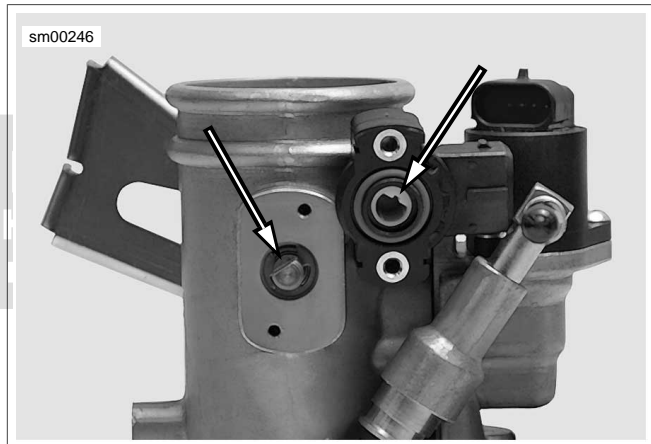

Figure 4-11. Throttle Position Sensor
4. See Figure 4-11. Remove two screws and washers to detach TP sensor.
1. See Figure 4-11. Apply LOCTITE 222 (purple) to threads of fasteners.